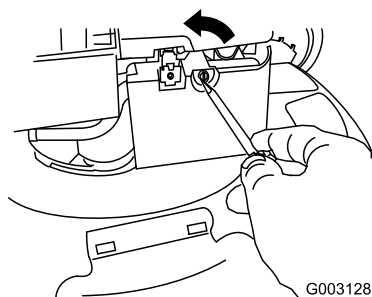

Figure 38
2. Use a screw driver to open the air filter cover (Figure 38).